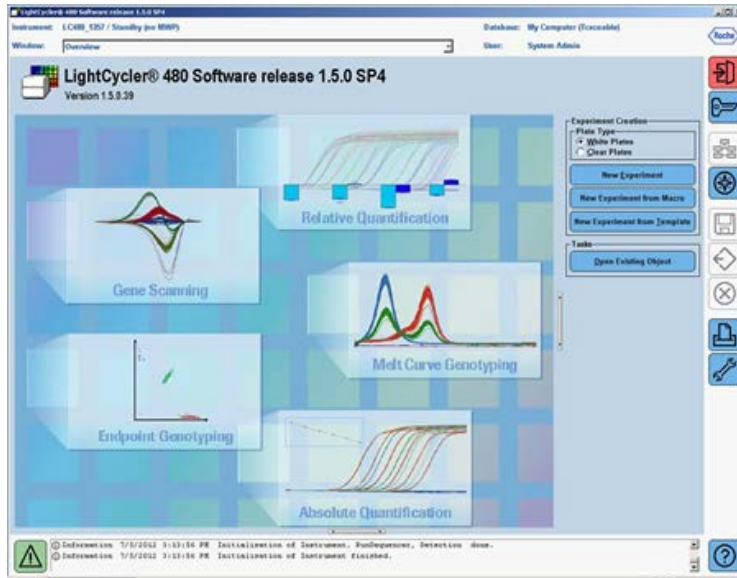

Figure 1. Overview window.
4. In the Overview window (Figure 1), click the New Experiment button on the right-hand side of the window to launch the Run module.